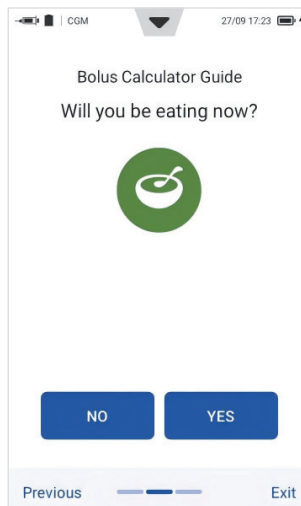

Figure 88
2. In this step, the calculator will ask if you will be eating now (Figure 88). Choosing "No" will only calculate the Correction Bolus, proceed to step 4, and choosing "Yes" will proceed to step 3.